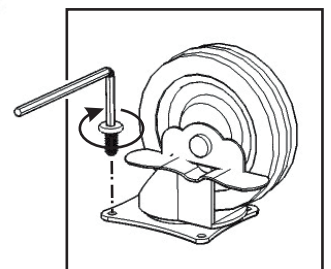

Figure 3
Attach 4 Casters underneath Base (U) with Head Cap Bolts for Caster, put 2 Locking Casters on the front. (See "Arrow" sticker indicating front side) (See Figure 3)